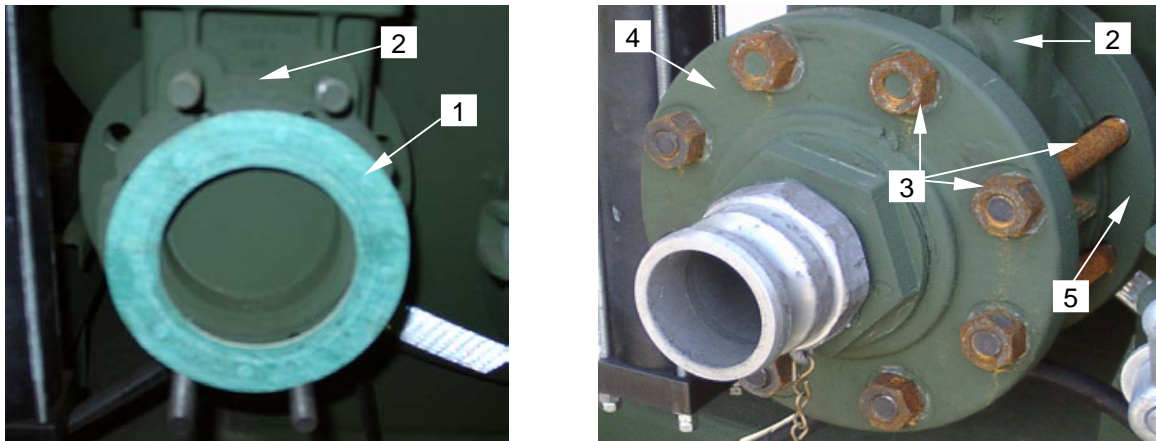

Figure 7. Installing Front Gasket and Flange
15. Place a new 2¹/₂-inch gasket (**figure 7, item 1**) onto the intake valve (**figure 7, item 2**) as shown.
16. Install hex nuts and bolts (**figure 7, item 3**) securing front flange (**figure 7, item 4**) to intake valve and rear flange (**figure 7, item 5**).